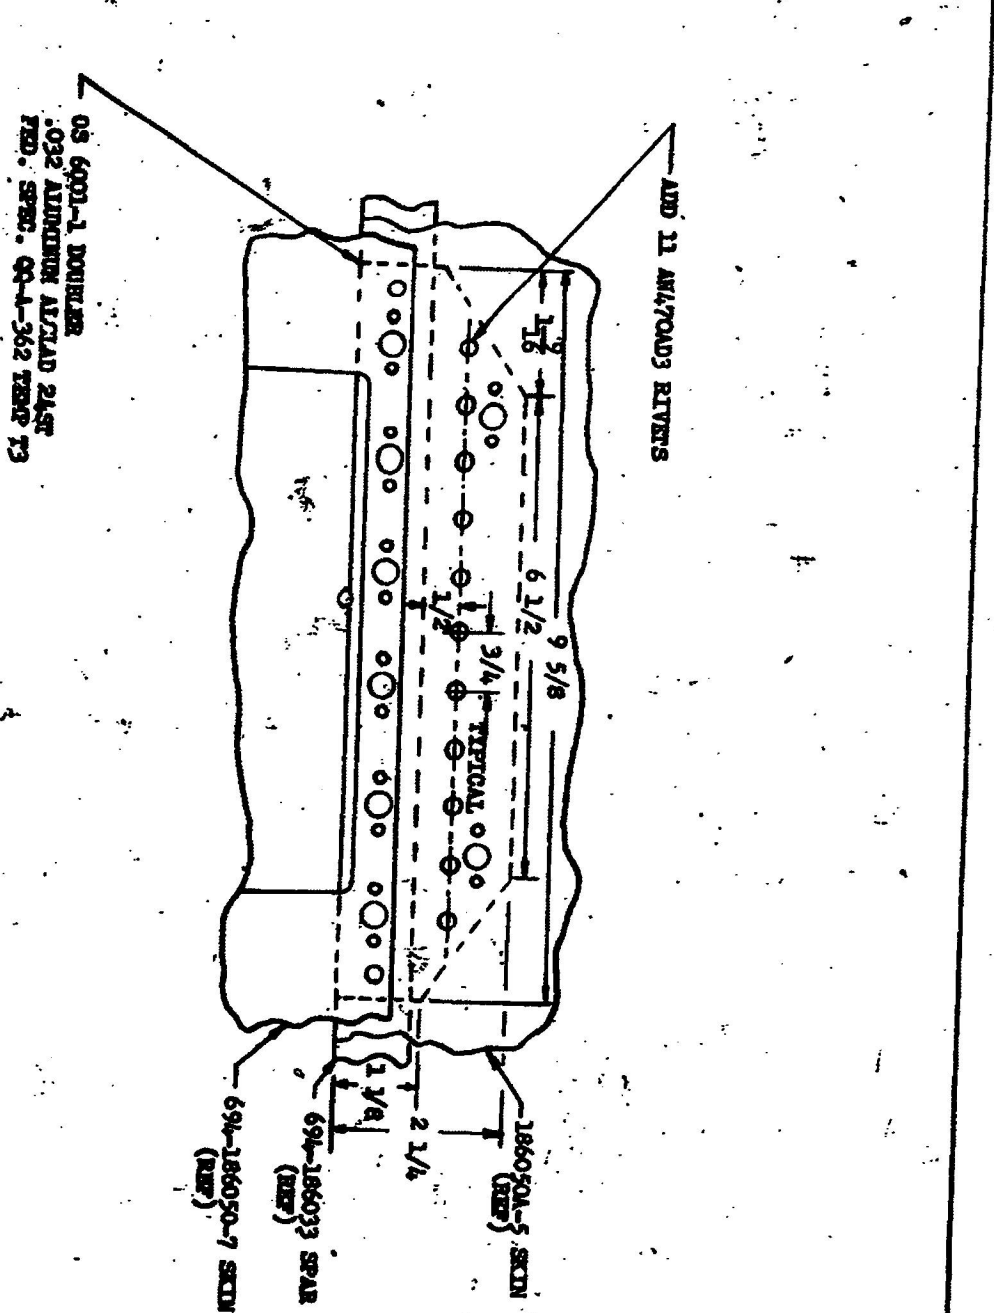

Figure 1
- (h) If the attaching holes through the 694-186050-7 skin for the 694-186040 door do not align with the holes in the 186050A-5 skin, install an OS 6001-1 doubler between the 186050A-5 skin and the 694-186033 spar. Pick up all existing rivets and add eleven AN470AD3 rivets as shown in Figure 1.